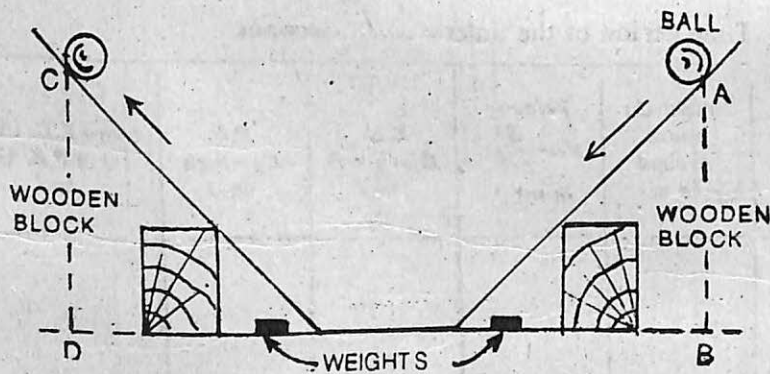

Fig. 19.1.
2. Keep the double inclined track on the table and press its central wings with the help of 1 kg weights (Fig. 19.1). Insert the wooden blocks under the ends of each track such that both are inclined. The angle of inclination need not necessarily be equal.